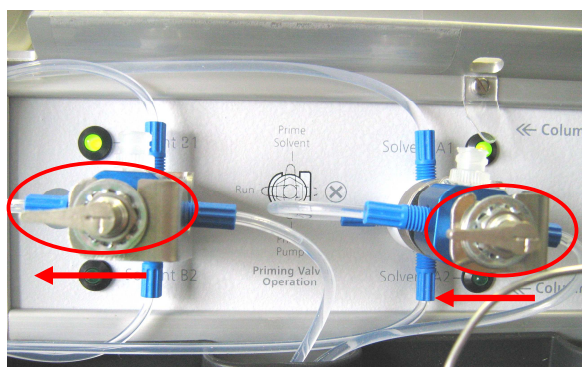

Figure 16: Valve position when in run mode
4. Once both lines have been flushed (step 2 and 3) put the valve switch back into the run mode (pointing the left) *Figure 16*